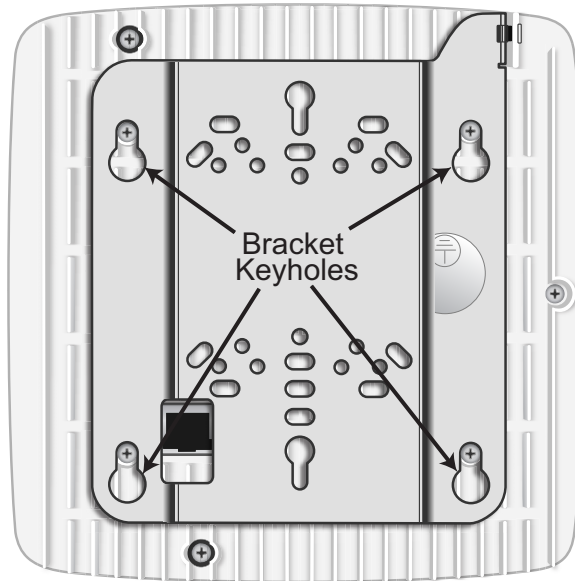

Figure 11 Radio Node Slides into Mount Bracket
- When mounting the radio node vertically, orient the bracket such that the bracket keyholes have the narrow side up as shown in Figure 11.
Attach the mount bracket to the radio node as shown in Figure 11: